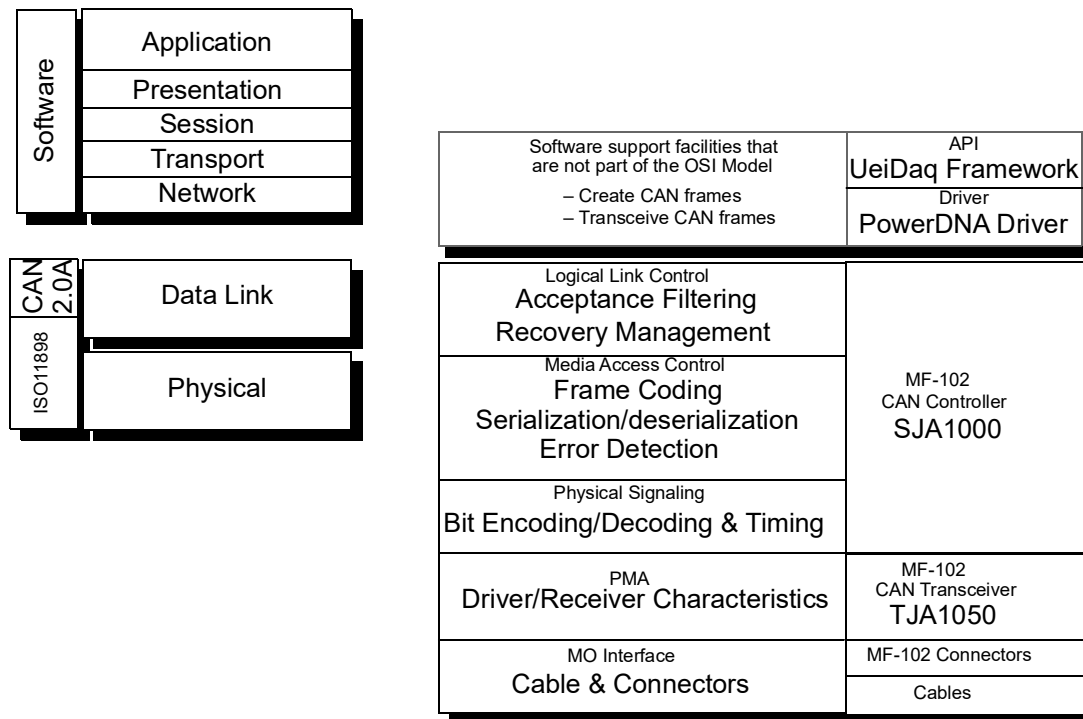

Figure 2-11 CAN and the ISO/OSI Model
2.5.2.1 CAN and the OSI Model - Overview The CAN communication stack may be represented using the OSI model, as shown in Figure 2-11. The *physical* and *data-link* layers are implemented by the DNx-MF-102 hardware.